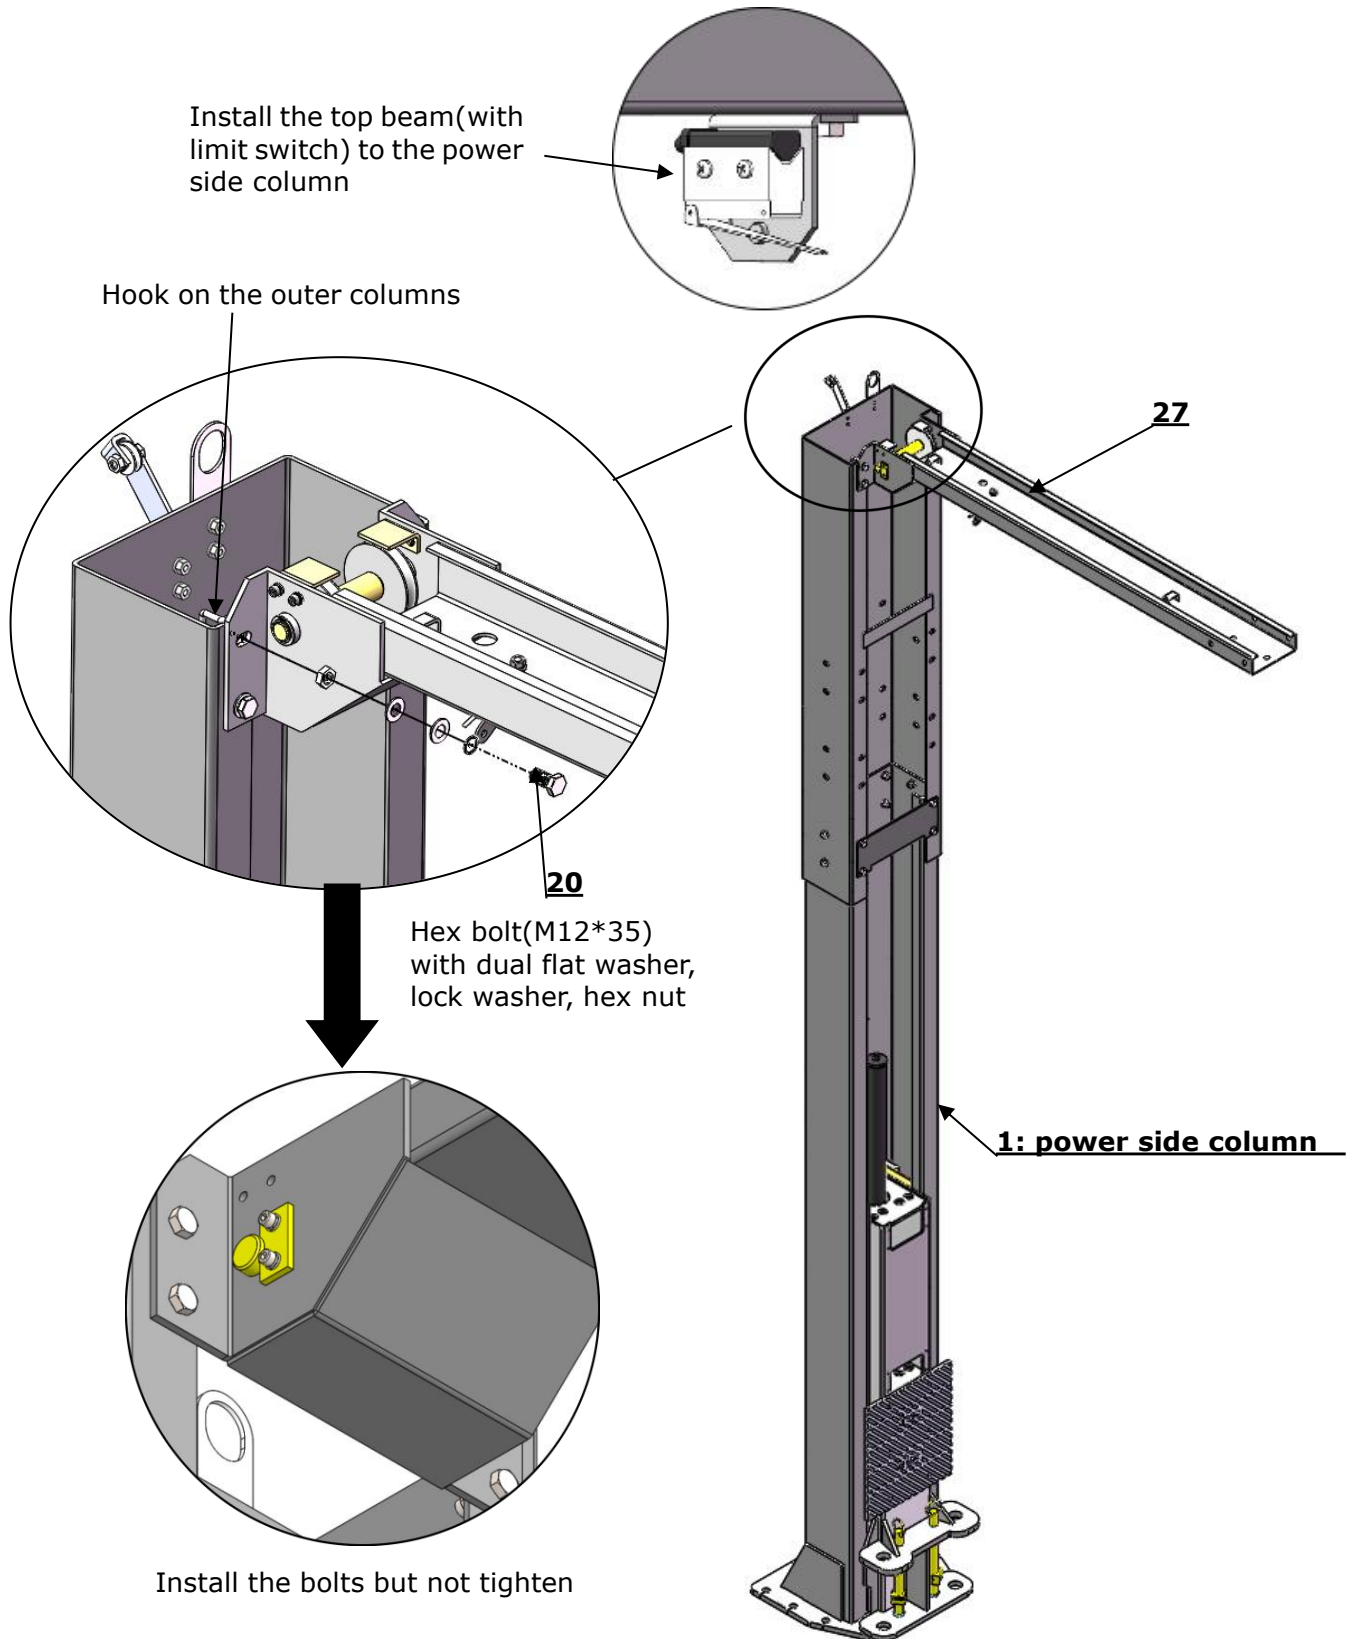

Fig. 24
1. Hang the hook of top beam(with limit switch) on the power side outer column, then align the holes and install the bolts. (See Fig. 24)